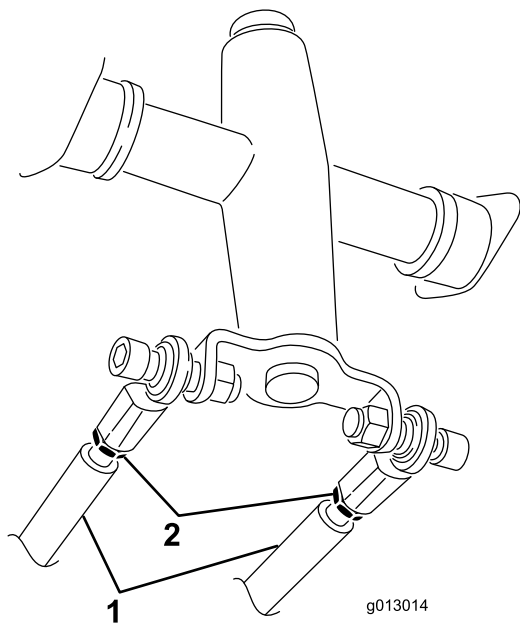

Figure 58
3. Loosen the jam nuts on the traction rods, under the control panel (Figure 58).